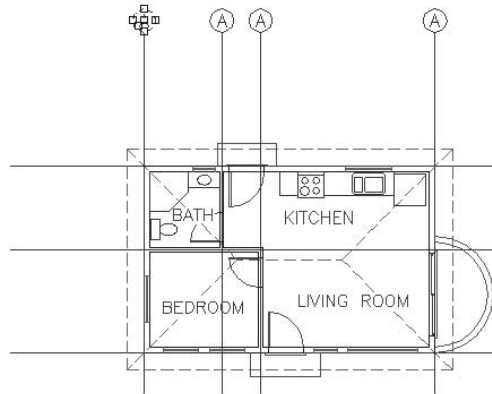

FIGURE 10.18: The grid circle and letter are copied to the top of all three vertical lines.
4. Pick the top end of each vertical grid line; then right-click and choose Enter (see Figure 10.18).